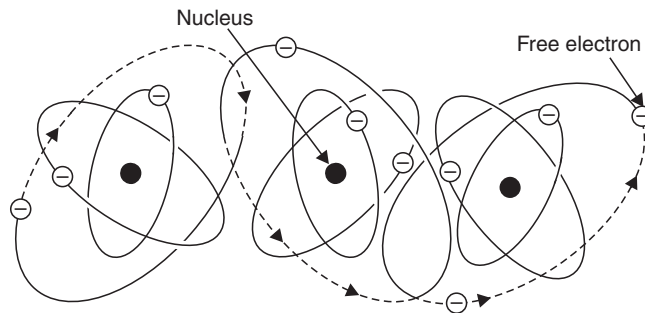

Fig. 2. Current : Flow of electrons within a conductor.
- In order to have electric current, *electrons must move from atom to atom* (Fig. 2). There are quite a few substances in which it is relatively easy for an electron to jump out of its orbit and begin to orbit in an adjoining or nearby atom. Substances which permit this movement of electrons are called *conductors of electricity* (e.g. copper, aluminium, silver, etc.)